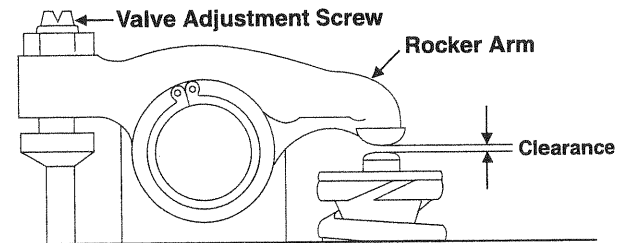

Figure 9: Valve Adjustment
5. To adjust valve clearance, loosen the lock nut on the adjustment screw. Insert a feeler gauge between the rocker arm and the valve stem cap. Adjust until the feeler gauge slides with a slight drag. Tighten the lock nut and recheck the clearance (Figure 9).